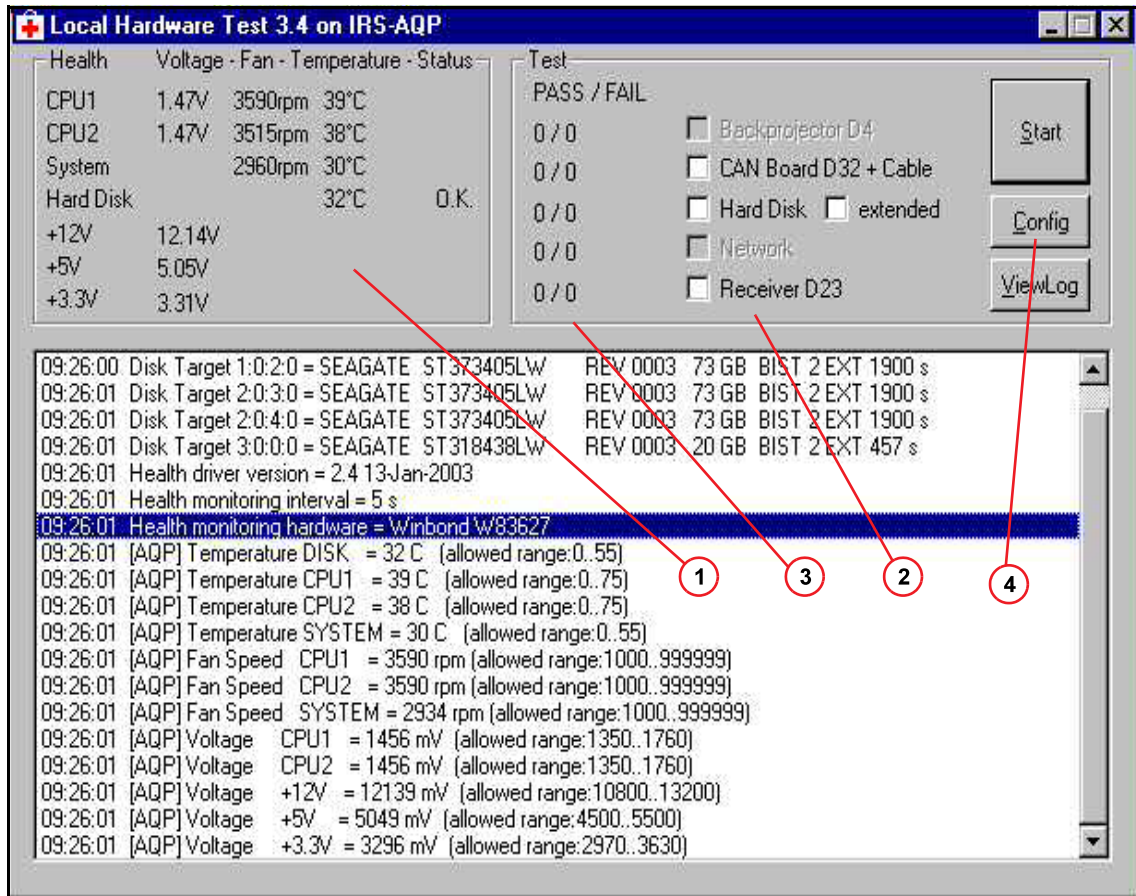

Fig. 50: Local hardware tests
3. The following conditions can be checked in the Health monitoring window (1/Fig. 50 / p. 84):
2. Check the configuration settings by clicking the **Config** button (4/ Fig. 50 / p. 84).
(3/ Fig. 50 / p. 84)
In addition, a summary displays the number of test passes and failures (3/Fig. 50 / p. 84).